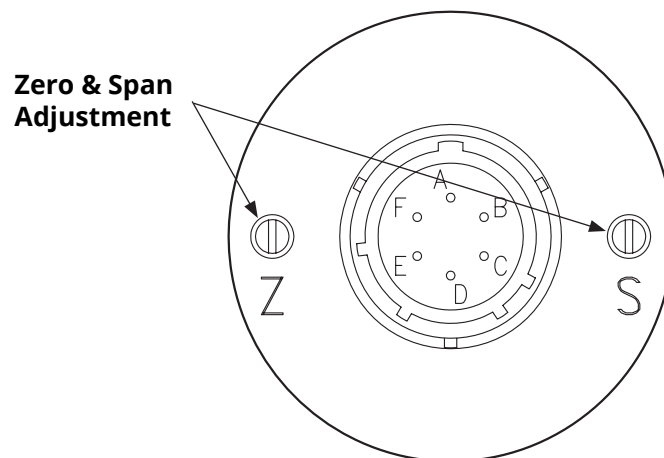

Figure 3.1
i IMPORTANT: Do not make changes to the Span adjustment (the "S" pot to the right, see Figure 3.1) as part of the zero trimming. The Span should only be changed as part of the recalibration of a gauge with a known pressure source.
- Apply full scale pressure to the pressure port and adjust the Span ("S") pot (on the right of Figure 3.1) until the full scale signal is reached.